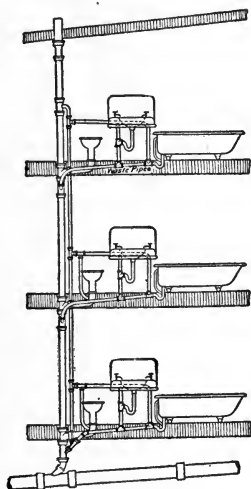

FIG. 187.—Why is it necessary to have a vent stack through the roof? Why is each fixture furnished with water trap?
**Sewer Gas.**—There is not as much danger in sewer gas as is sometimes supposed, since analysis of the gas shows that it is often freer from germs than is street air. Sewer gas, however, is very unpleasant to have in the house. Therefore vents must be so constructed as to allow all gases to pass through the house without entering any of the rooms. Fig. 187 shows the arrangement for allowing the sewer gas to escape by means of a soil stack